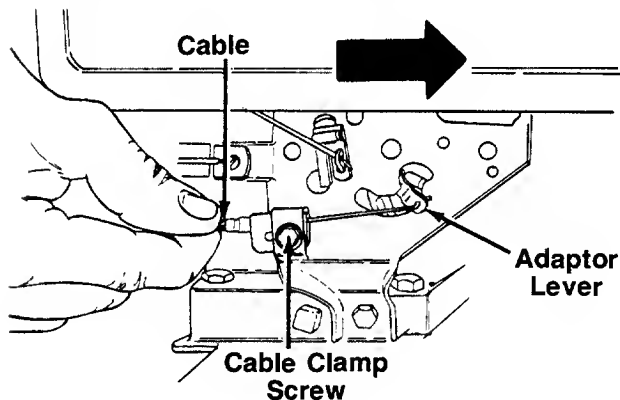

FIGURE 23.
1. Loosen the cable clamp screw. See figure 23.
2. With the throttle control in FAST position and the cable connected to the adaptor lever, push the cable through the cable clamp in the direction shown in figure 23 until the adaptor lever is as far up as it will go.